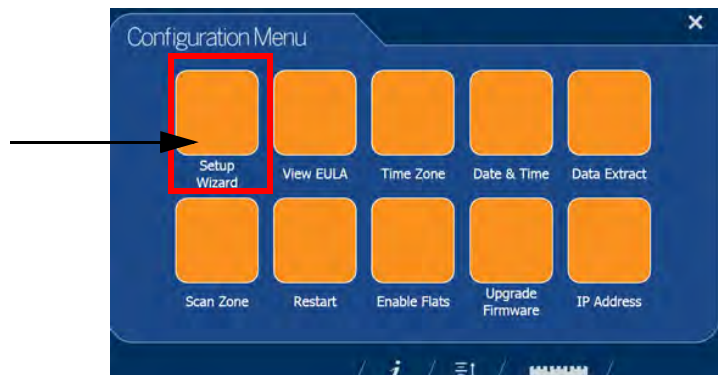

Figure 2-2. Configuration Menu
1. Select **Time & Date** (Figure 2-2 on page 4).